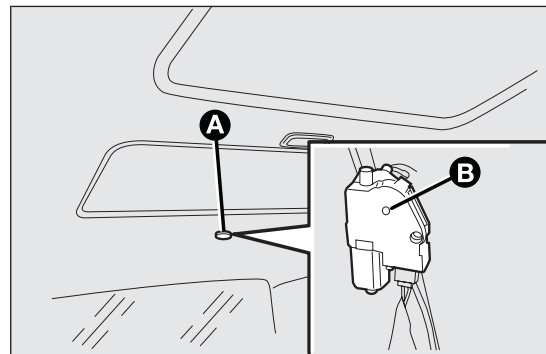

fig. 81
- ☐ remove the protective cap A fig. 81 located on the rear of the inner trim;